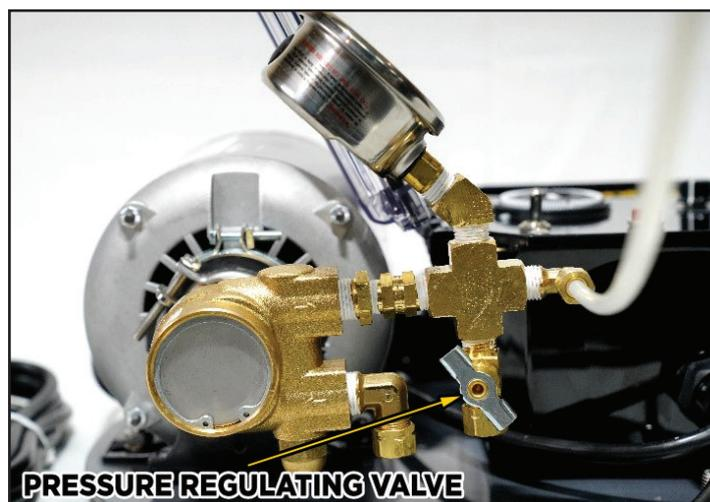

FIGURE 7
9. Turn the pressure regulating valve clockwise until the pressure gauge reads between 190psi and 210psi (Figure 7), and all nozzles are spraying a consistently fine mist. Check again for leaks at the tubing connections.